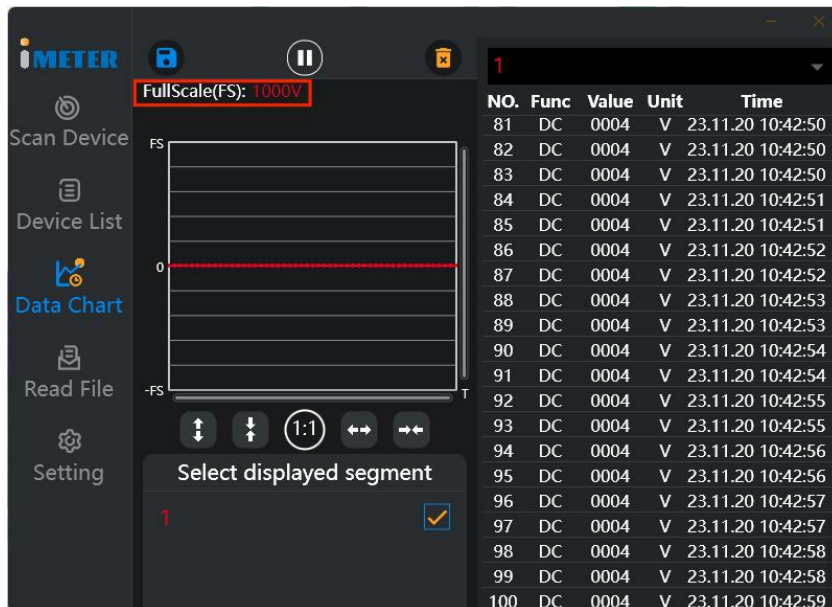

Figure 4
- Figure 4: The reading is 0004V, there's no decimal point. In this case, the full scale value should be 6000. However, the multimeter used in this